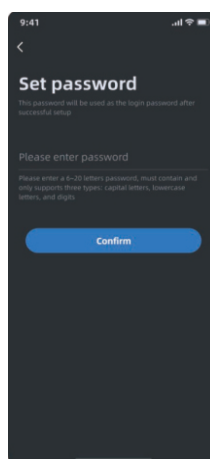

Figure 6
6) Figure 6: Enter the required password and click "**Confirm**" to complete the registration.